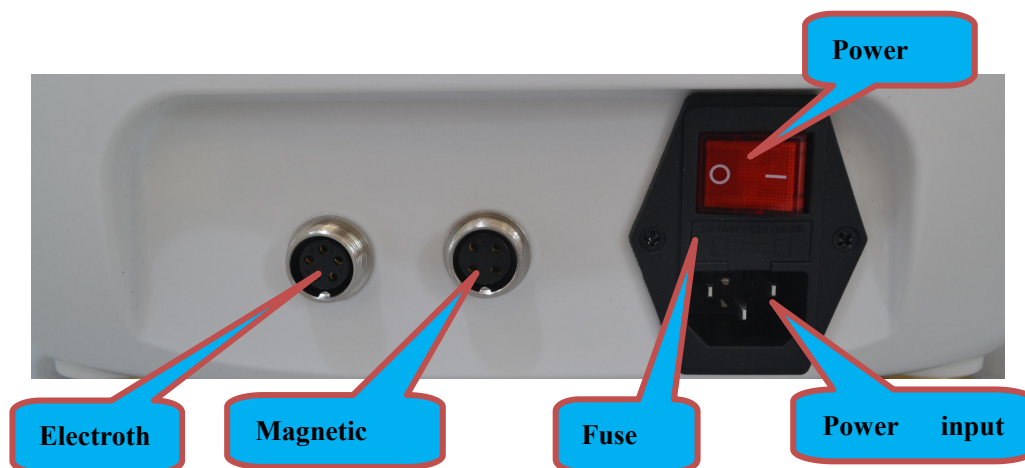

Figure 2: Schematic diagram of input and output connection of therapeutic apparatus
### (II) Connection of therapeutic apparatus (as shown in Figure 2)